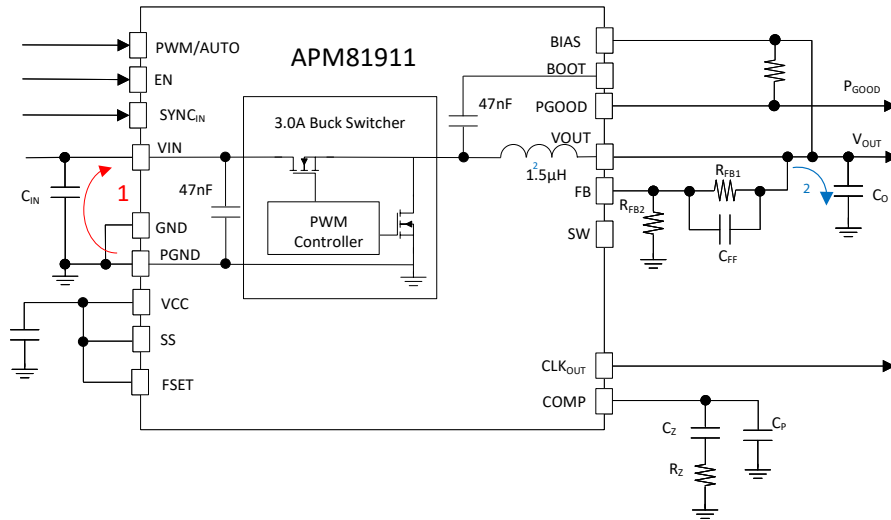

Figure 16: PCB Layout Critical Paths
The APM81911 is designed to minimize electromagnetic (EM) emissions when proper PCB layout techniques are adopted. A good PCB layout is also critical for the APM81911 to provide clean and stable output voltages. Design guidelines for EMI/EMC-aware PCB layout and minimum  $R_{\theta JA}$  are presented below. Figure 16 shows a typical application schematic of a synchronous buck regulator IC with critical power paths/loops.
- Place the ceramic input capacitors as close as possible to the VIN pin and PGND pins to make the loop area minimal, and the traces of the input capacitors to VIN pin should be short and wide to minimize the inductance. This critical loop is shown as trace 1 in Figure 16. The bulk/electrolytic input capacitor can be located further away from VIN pin. The input capacitors and APM81911 IC should be on the same side of the board with traces on the same layer.
- Place the output capacitors relatively close to the output pins, VOUT. Ideally, the output capacitors and the APM81911 should be on the same layer. Connect the output capacitors with a fairly wide trace. The output capacitors must use a ground plane to make a very low-inductance connection to the PCB GND. These critical connections are shown as trace 2 in Figure 16.